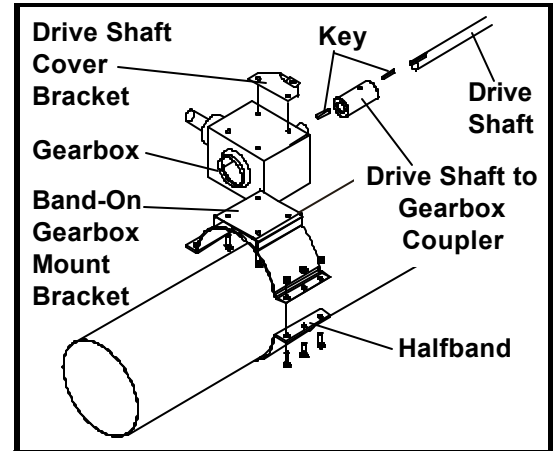

Fig. 7
B. Attach the gearbox to the gearbox mounting bracket halfband using four (4) 3/8" x 3/4" bolts, flatwashers, and locknuts. (See Fig. 7)
C. Insert one (1) 1/4" x 1-1/2" key into the keyway located on the drive shaft and slide a 1-1/4" to 1" coupler onto the drive shaft.